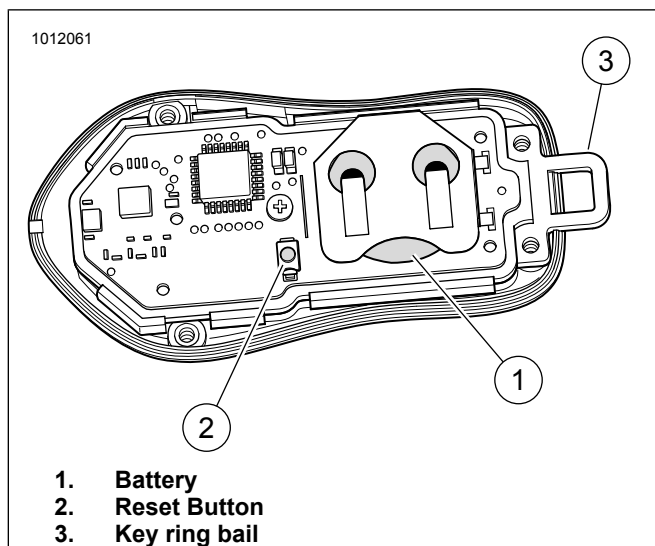

Figure 5. Fob Reset and Battery
See Figure 5. The key ring bail (3) can fall when cover is removed. Use care not to lose it.
See Figure 5. Remove four screws securing the back cover of fob. Remove cover.
2. See Figure 5. Press and hold button (2) until Spectra Glo lights on vehicle cycle through all seven color zones. Continue to hold an extra 5 seconds until Spectra Glo lights cycle through all seven color zones a second time.
See Figure 5. Remove four screws hold on back cover of fob. Remove cover.